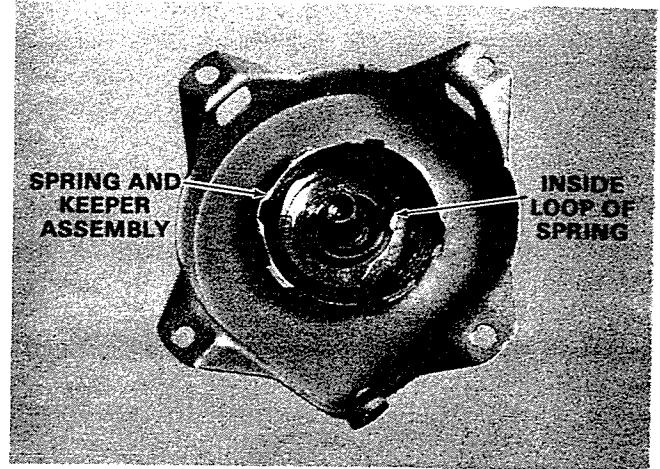

Figure 9. Installing Spring, Type B and C Starters.
1. Place spring and keeper assembly into cover. Figure 9.